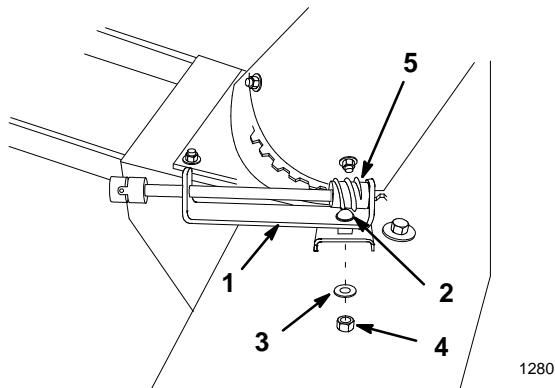

Figure 5
8. Install discharge chute rotator assembly into slot in housing with (3) 5/16 x 1" carriage bolt (head to top), (3) 5/16" pyramidal washer and (3) 5/16" locknut (Fig. 5).